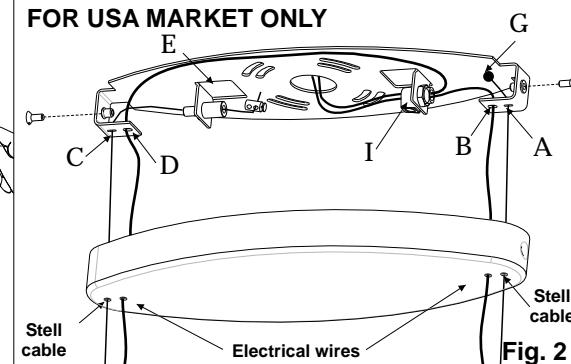
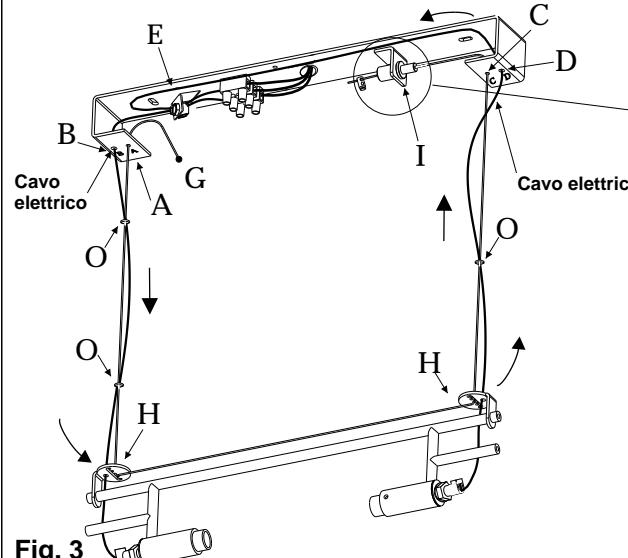

Fig. 2
Fig. 3
1. Remove (2) canopy mounting screws with star washers and slide canopy down fixture wires about 1' away from J-Box (for USA only) cover/fixture mounting plate.
2. Uncoil suspension cable (be careful not to kink cable) & feed through hole "A", on left,(opposite side of wire fastener "I") until ball end "G" reaches hole "A", as shown in Fig.3 (for USA Fig.2) - (on left side of fixture). Run cable through adjacent hole "A" in canopy and run through all rubber o-ring "O" along adjacent fixture wire as shown in fig.3 (for USA Fig.2).
3. Run cable down through suspension/leveling disc "H" on left, across fixture and up through disc "H" on right fig.3.
4. Run cable up through all rubber o-rings on right fixture wire, through canopy and through hole "C" on right as shown in fig.3.(for USA Fig. 2).
4. Srotolare la matassa del cavetto d'acciaio "G" e infilarlo nel foro "A" dalla parte della morsettiera come descritto in **Fig.3**. Infilare uno o due anellini "O" e proseguire l'operazione infilando la cima del cavetto attraverso le feritoie a pettine delle due squadrette "H" **Fig.3**. Infilare nuovamente uno o due anellini e far entrare la cima attraverso il secondo foro "C" **Fig.3**.